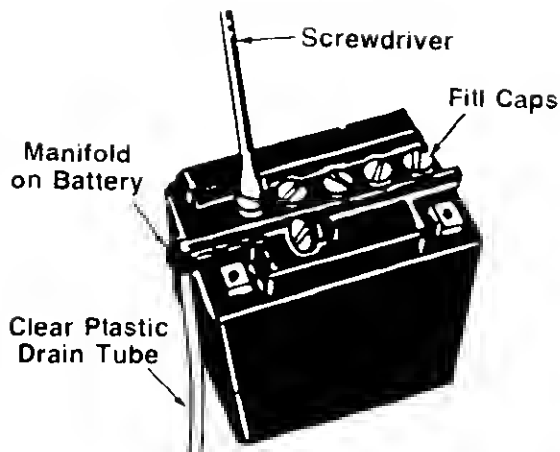

FIGURE 1.
3. Place one end of clear plastic drain tube on manifold of battery. See figure 1.
4. Remove the six fill caps from the top of the battery with a screwdriver. Care should be taken not to damage the fill caps. See figure 1.